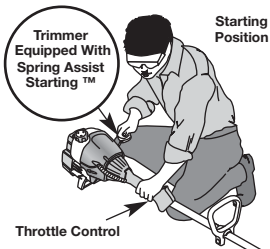

Fig. 7
WARNING: Avoid accidental starting. Make sure you are in the starting position when pulling the starter rope (Fig. 7). To avoid serious injury, the operator and unit must be in a stable position while starting. To avoid serious personal injury, ensure any Add-On being used is installed correctly and secure before starting the unit.
4. Crouch in the starting position (Fig. 7), squeeze the throttle control, and pull the starter rope 5 times in a controlled and steady motion.